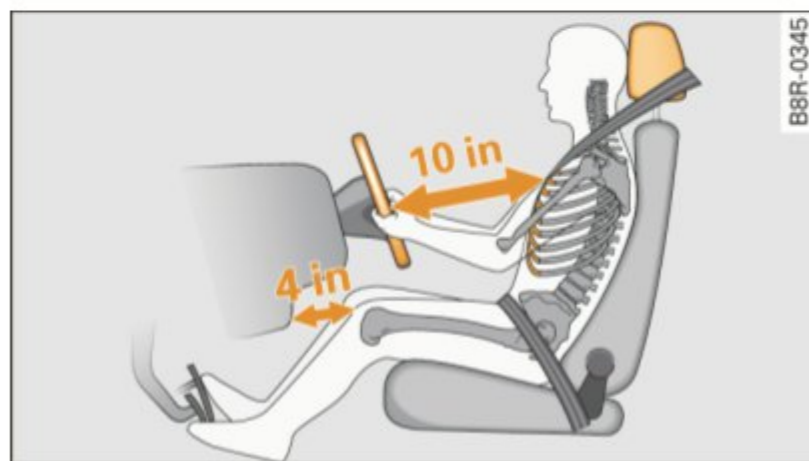

Fig. 164 Correct seating position
- Adjust the steering wheel so that there is a distance of at least 10 inches (25 cm) between the steering wheel and your breast bone ⇒ fig. 164. If not possible, see your authorized Audi dealer about adaptive equipment.